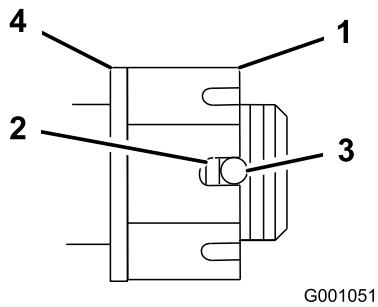

Figure 40
4. Torque the slotted nut to 125 ft-lb (170 N•m) (Figure 40).
5. Check the distance from bottom of slot in nut to inside edge of hole. Two threads or less should be showing (Figure 40).
7. Torque the slotted nut to 125 ft-lb. (170 N•m) (Figure 40).
8. Tighten the nut until the next set of slots line up with the hole in the shaft (Figure 40).